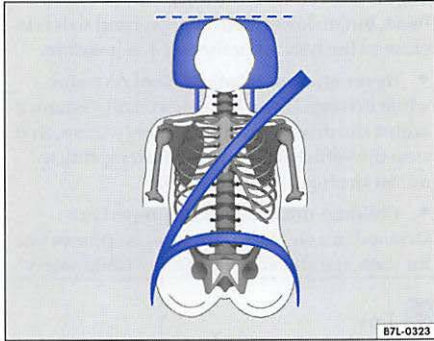
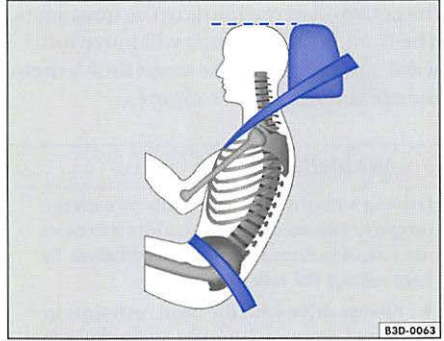

Fig. 3 Correctly adjusted head restraint viewed from the front
Fig. 4 Correctly adjusted head restraint viewed from the side
- Adjust the head restraint so that the upper edge of the restraint is level with the top of your head, but no lower than eye level and so it is as close to the back of your head as possible ⇒ **fig. 3** and ⇒ **fig. 4**. Always raise the head restraint for the rear center seating position whenever the seat is occupied.